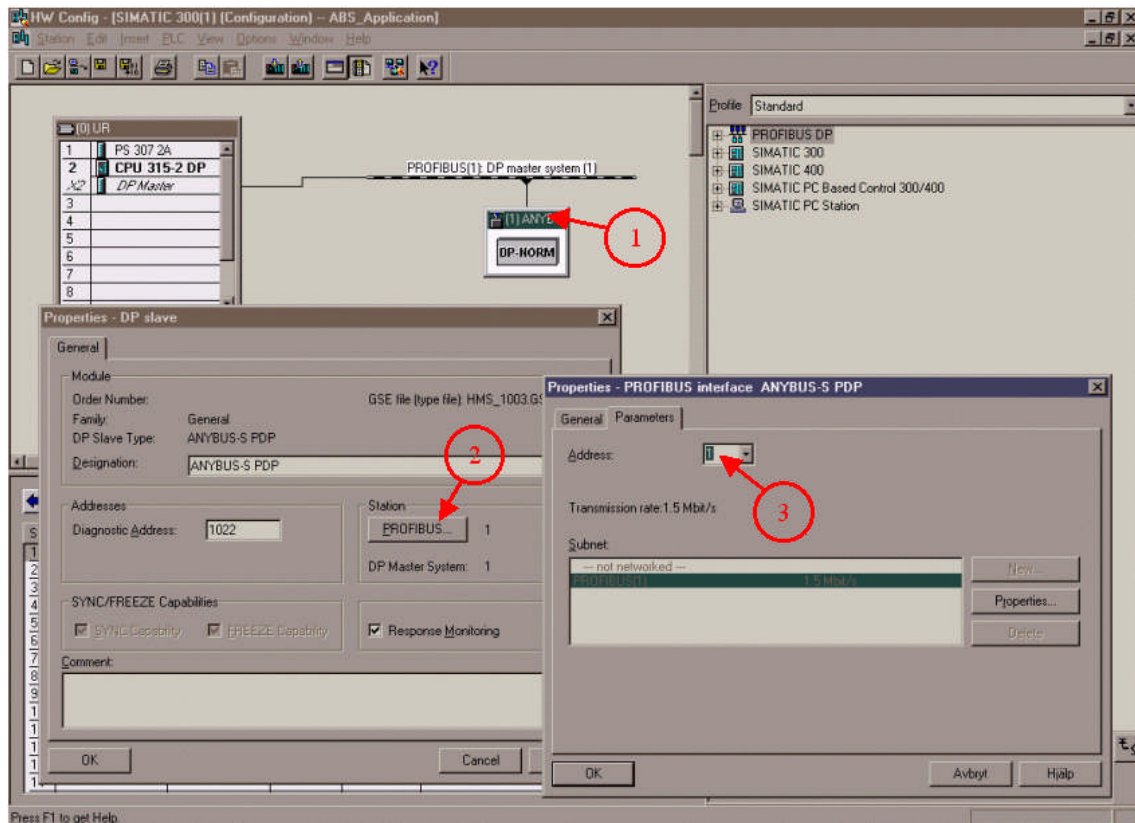

Figure 12 Adjusting the node address in HW Config
In Figure 12 it is shown how to edit the node address. The edit-window for the node address is opened by doing the click sequence ❶, ❷, ❸. At ❸ it is possible to set the desired node address. The address set here must equal the address set on the Anybus-S module, see the chapter 4.1 Anybus module setting.